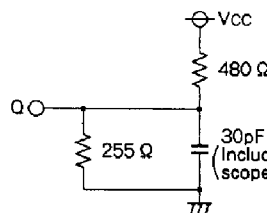
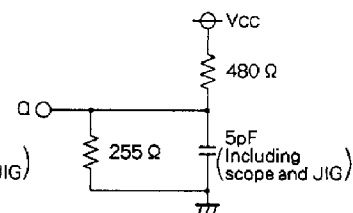

Fig.1 Output load
Fig.2 Output load for ten, tds
Output loads ..... Fig.1, Fig.2
3. Transition is measured  $\pm 500$ mV from steady state voltage with specified loading in Figure 2.